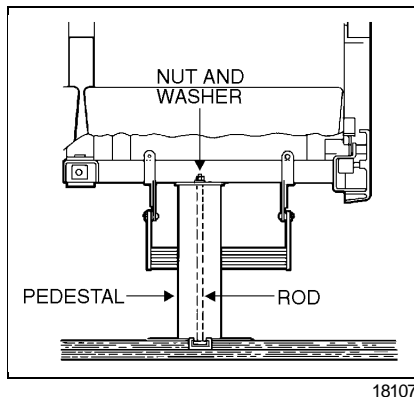

FIGURE 64: PASSENGER SEAT FRAME
- Remove 2 nuts and washers holding seat frame to pedestal rods. See figure 64.